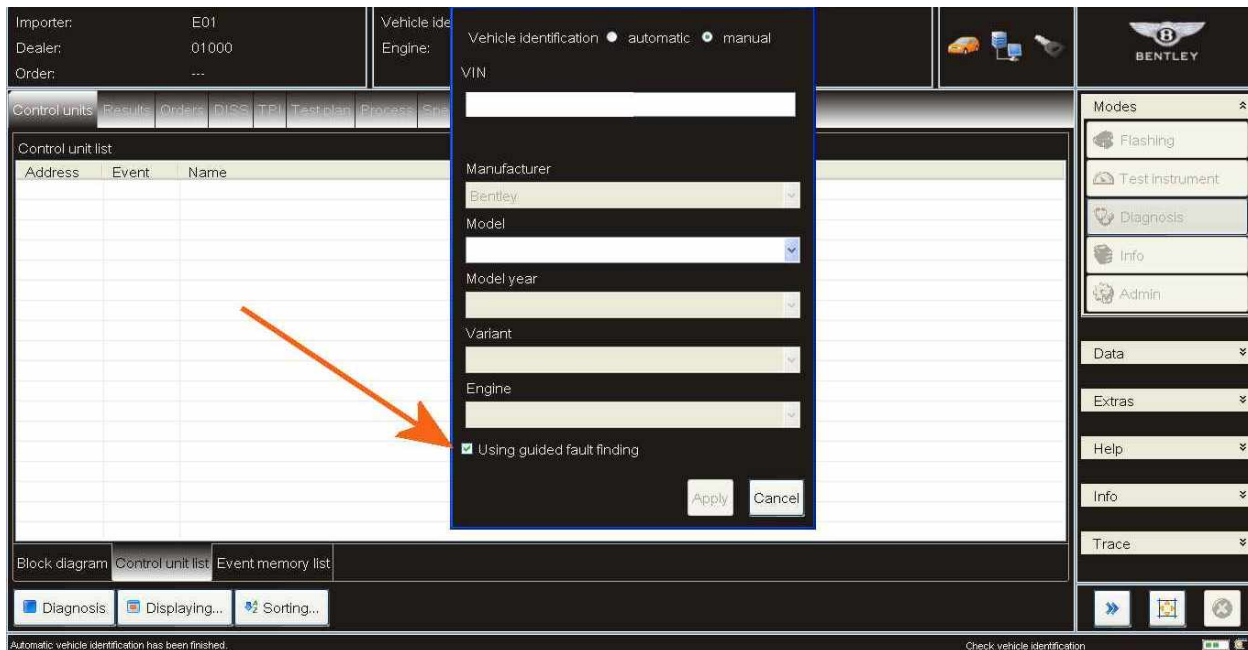

Figure 3
-Ensure the Using guided fault finding box is ticked (Figure 3) – follow all on screen prompts and allow the guided fault finding control module sweep to complete